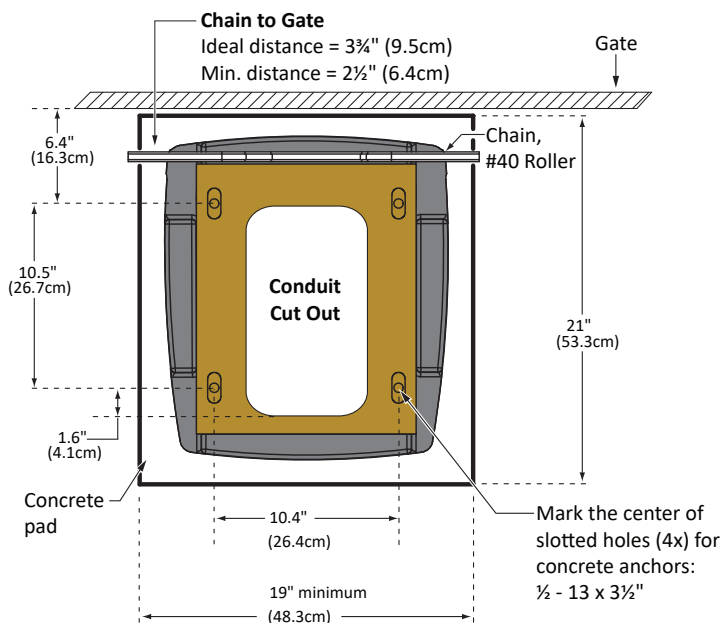
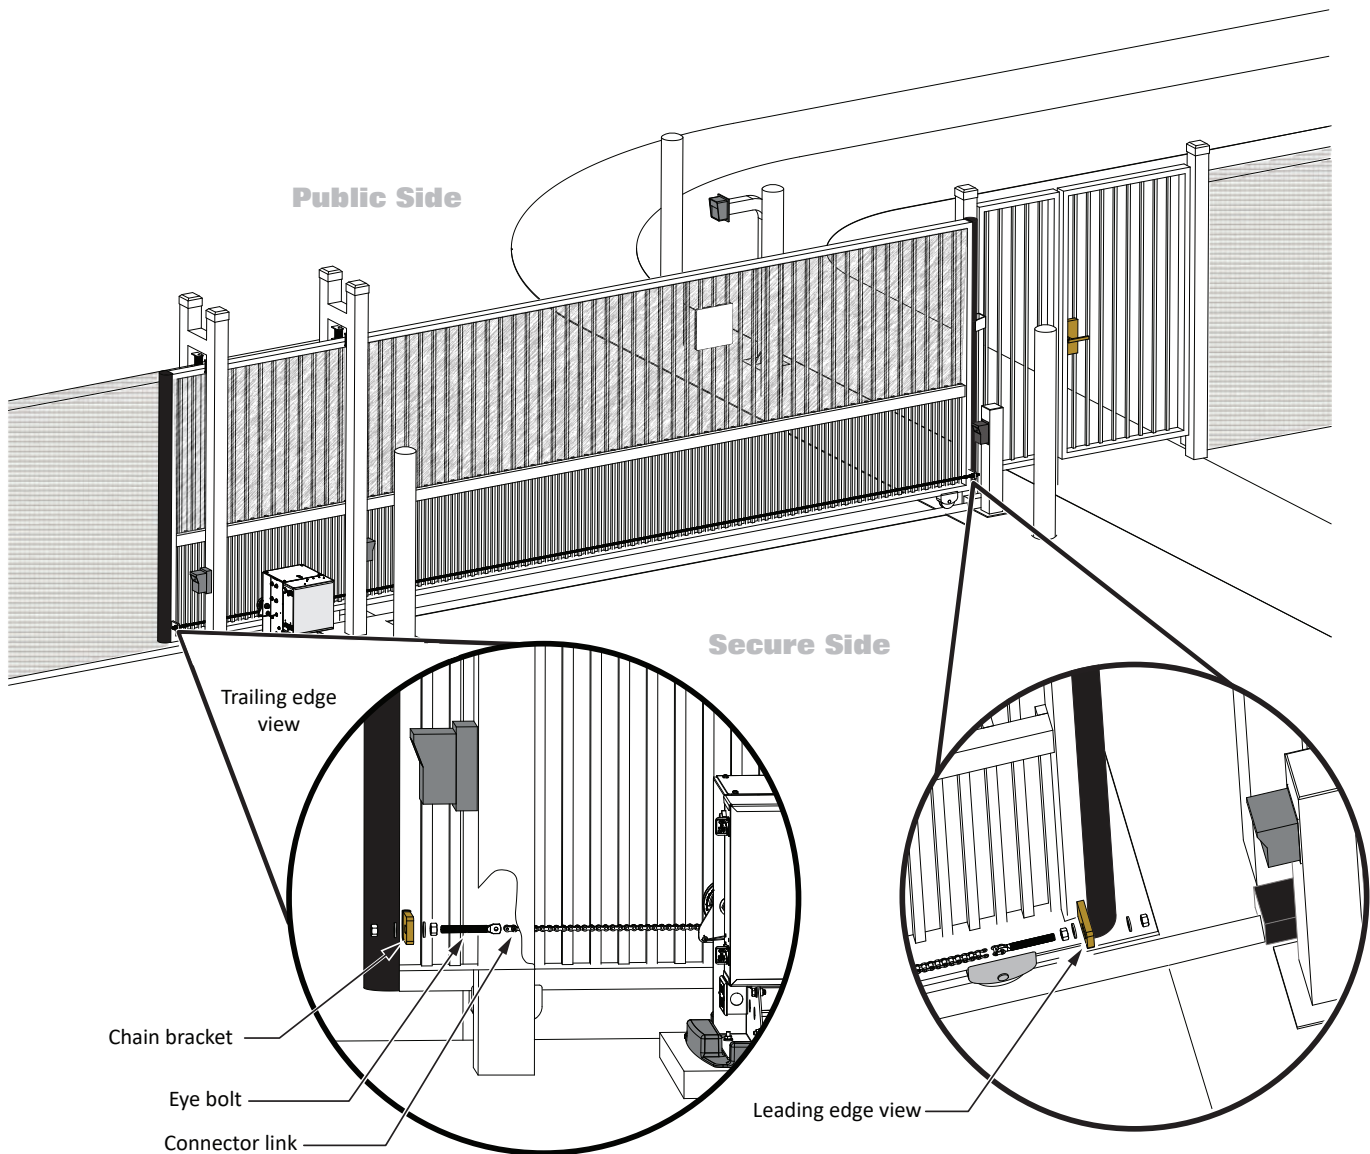

Figure 11. Concrete Pad Dimensions and Overhead Gate View
Figure 12. Gate Bracket and Chain Installation
2. Measure for proper chain alignment BEFORE welding the brackets to the gate. Make sure the chain will run horizontal to the ground and parallel with the gate. See Figure 11.
3. Weld the chain bracket in two places: leading edge and trailing edge. You may need to cut the length of the bracket to achieve proper chain alignment. Gusset plates are provided and can be welded to the bracket for added support. See Figure 11.
4. Attach the eye bolts to the brackets, and then attach the connector link between the chain and eye bolt. See Figure 11.
5. Feed the chain around the idler wheels and over the sprocket (See Figure 12) and attach the chain to the bracket on the opposite end of the gate. Make sure the chain is horizontal to the ground and parallel to the gate. See Figure 11.
6. Adjust the nuts on the eye bolt to tighten the chain (minimize sag, but avoid overtightening). Chain sag should not exceed 3 inches (76mm) from its anchor point. See Figure 11.
1. For a front installation, feed the chain over the sprocket and beneath the idler wheels. See Figure 12.